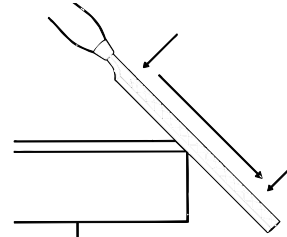

Fig15 Bevel edge finish with a file.
- Now bevel the edge of the laminate by tilting your file to 45° and pushing forward and down (see Fig 15).